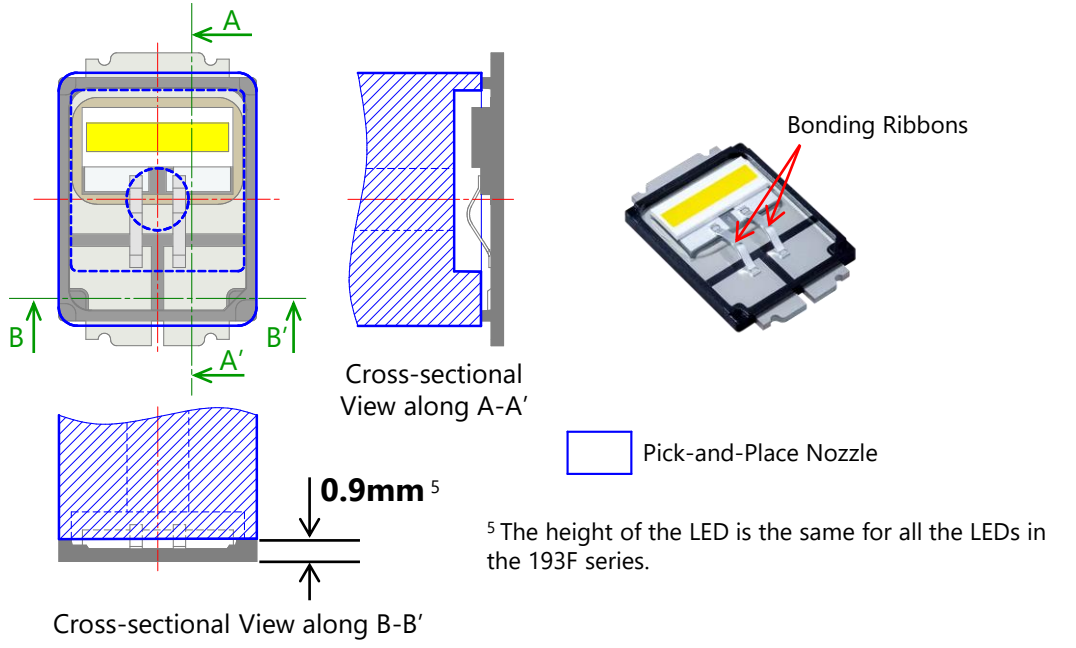

Figure 4. LED Pick-up Position (the NC5W193F LED is shown as an example.)
2. When setting the LED pick-up position, ensure that the center of the nozzle and the center of the LED are aligned and that the nozzle is oriented correctly (see Figure 4). If the nozzle does not pick up the LED at the center of the LED, and/or if the orientation of the nozzle is incorrect, this may damage the LED (i.e. scratch, chip, crack, deformation, etc.), affecting the optical characteristics and/or the reliability, or causing the LED not to illuminate. This may also lead to an incorrect pick up (i.e. the LED is picked up in a tilted position).